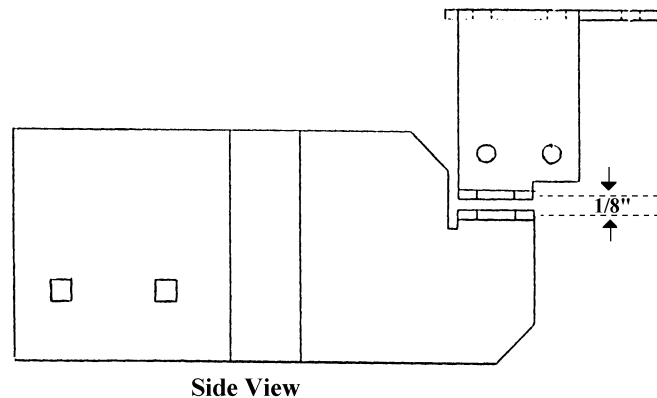

Figure 9
8. There should be approximately  $\frac{1}{8}$ " of space between the door lock plate and the door lock strike. (See figure 9 below.)
9. While holding the door lock strike in position, use the five holes in the door lock strike as a template and mark the holes. (See figure 9 below.)